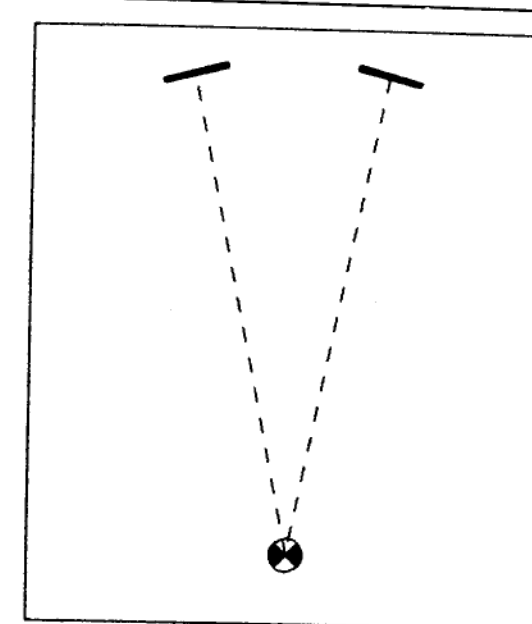

FIGURE 14-8: Musicians appear at far end of your room.
- A narrow listening angle and distant focus produce an image as though the musicians are at the other end of your room (Fig. 14-8).